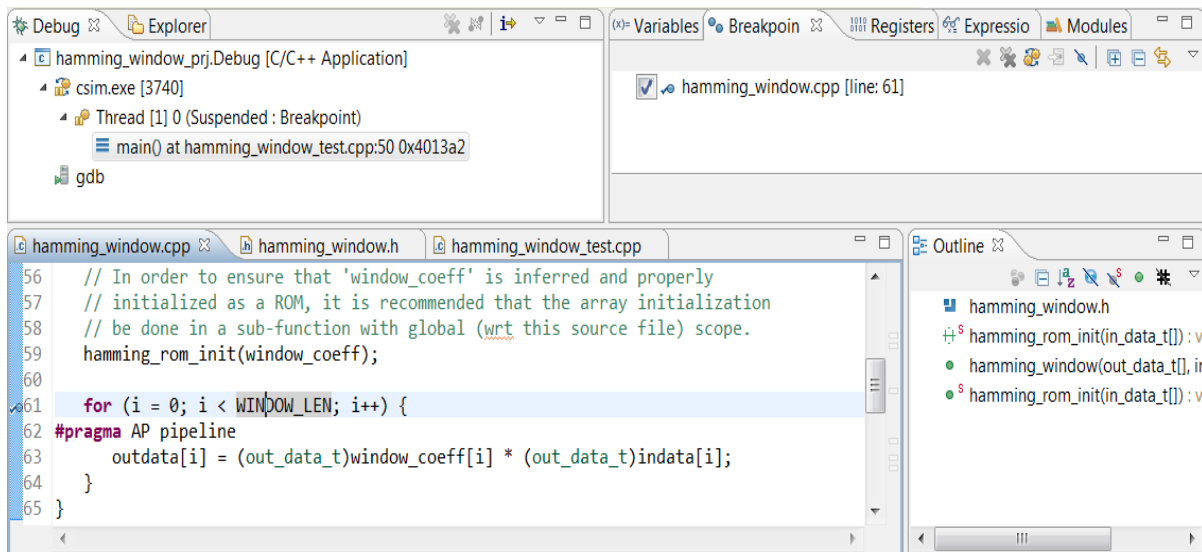

Figure 3-20: Debug Environment for C Validation Lab 3
5. Set a breakpoint at line 61 in the `hamming_window.cpp` file as shown in Figure 3-20.